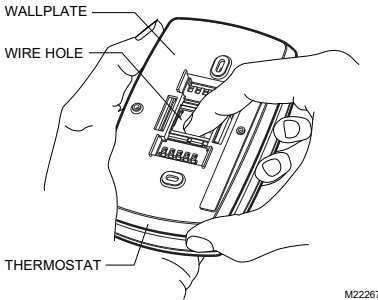

Fig. 2. Separate wallplate from thermostat.
- Separate the wallplate from the thermostat. See Fig. 2.